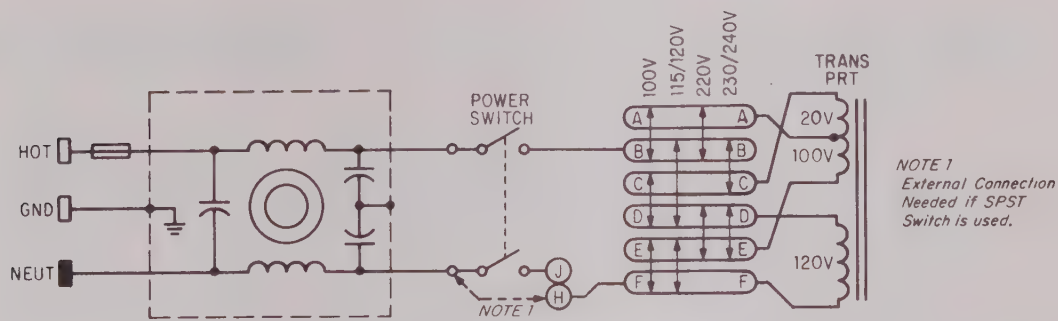

Figure 4-4. Line Filter
3. Check the AC voltage to the line filter. Connect a voltmeter between pin B and ground (see Figure 4-4).